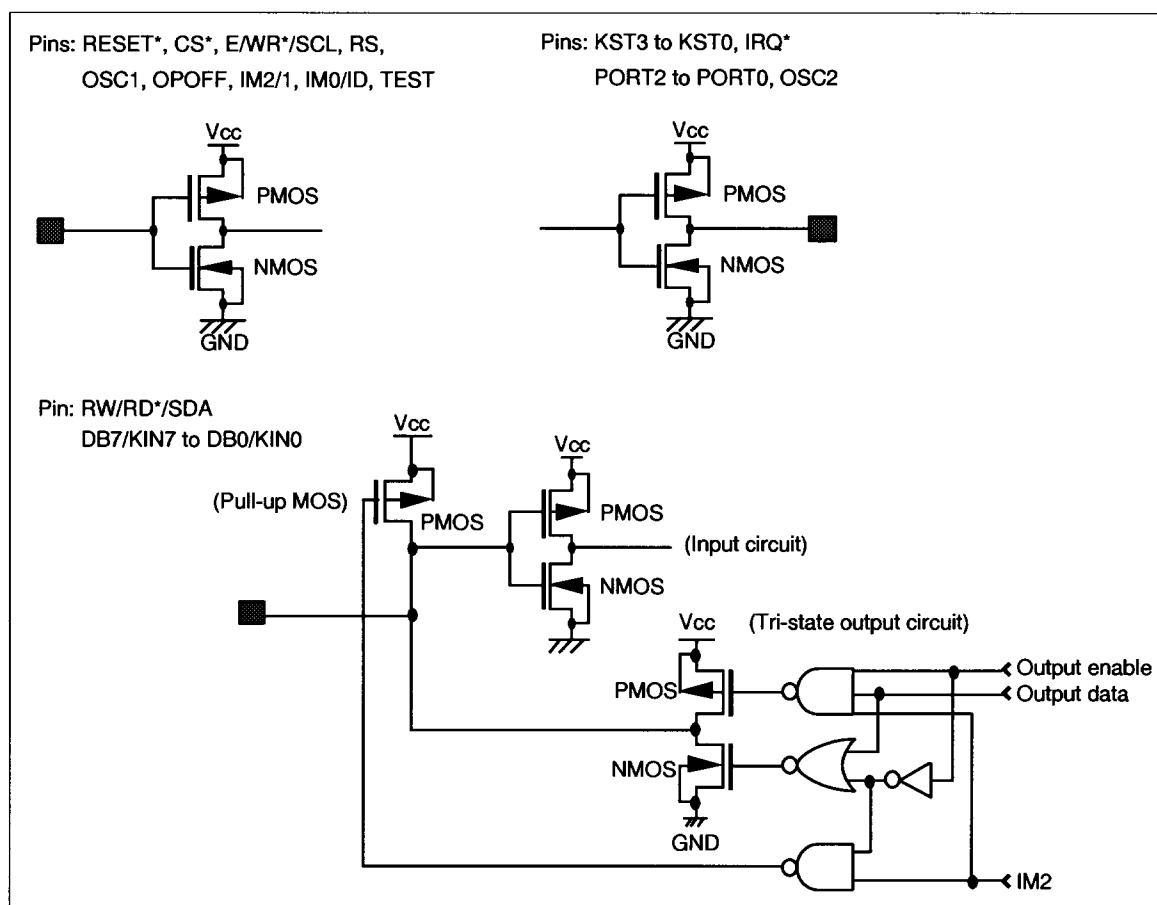

Figure 65 I/O Pin Configuration
5. The following three circuits are I/O pin configurations (figure 65).